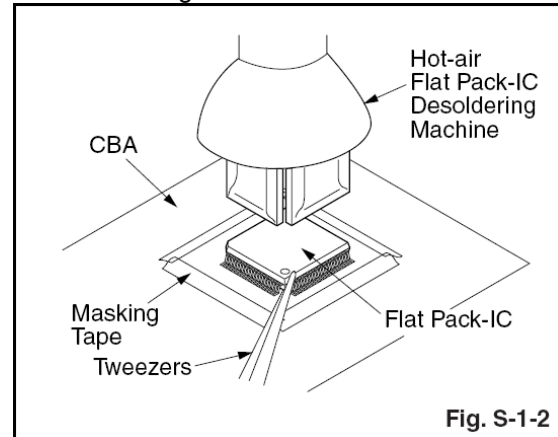

Fig. S-1-2
2. Do not supply hot air to the chip parts around the flat pack-IC for over 6 seconds because damage to the chip parts may occur. Put masking tape around the flat pack-IC to protect other parts from damage. (Fig. S-1-2)